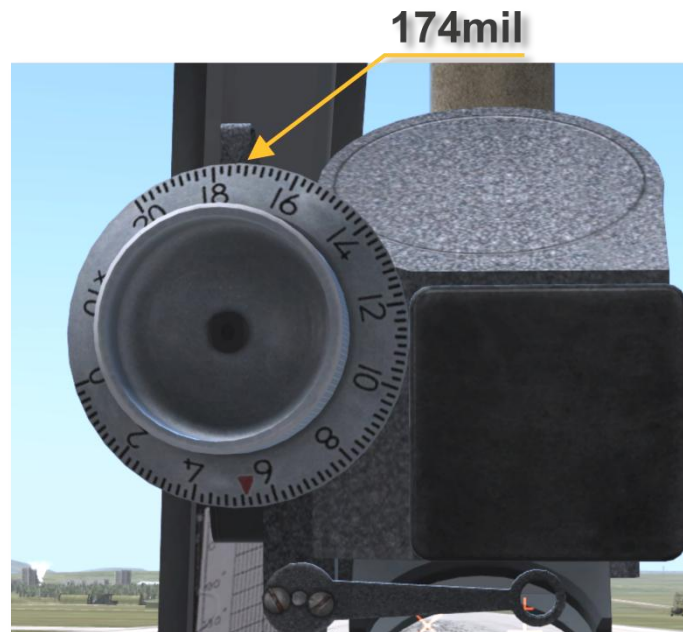

Рис. 9.7. Setting 174 mil elevation on the PKV sight
1. The required sight elevation setting must be set by rotating the elevation knob on the PKV collimating sight. For example, for a release from an altitude of 50 m at 200 kph, the elevation setting must be set to 174 mils, as demonstrated in Fig. 9.7.